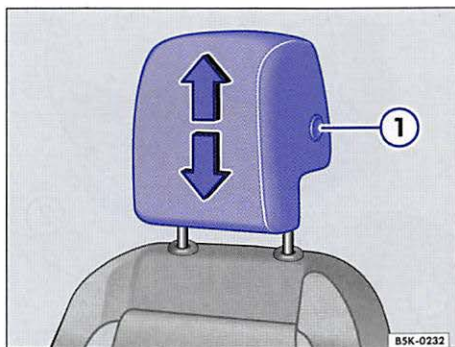
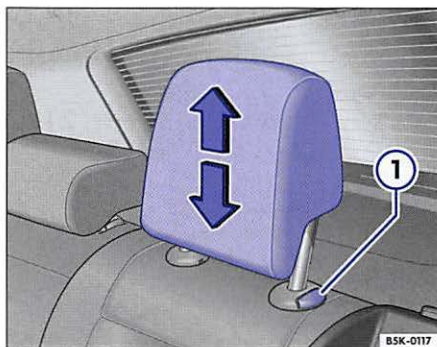

Fig. 37 Adjusting the head restraints.
Fig. 38 Adjusting the rear head restraints
- Push the head restraint up in the direction of the arrow or down when the button $\Rightarrow$ fig. 37 ① or $\Rightarrow$ fig. 38 ① is pressed $\Rightarrow$ .